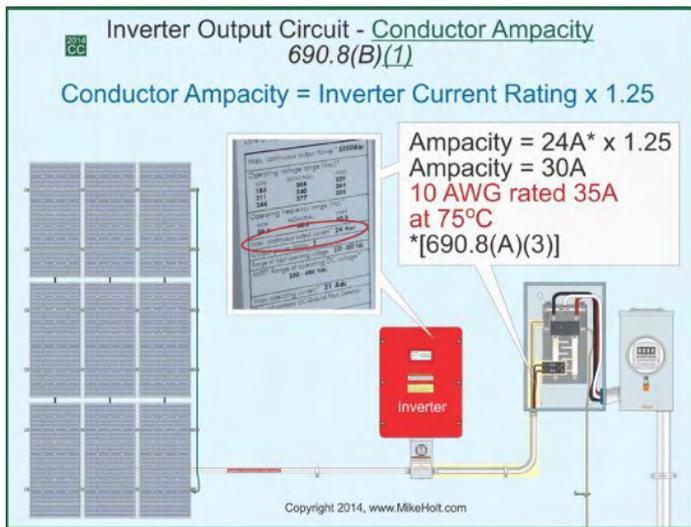

Figure 690-43
**Example:** What's the minimum inverter ac output circuit conductor ampacity, before the application of conductor correction or adjustment factors, if the maximum continuous nameplate ac rating of the inverter is 24A; if all terminals are rated 75°C? **Figure 690-43**